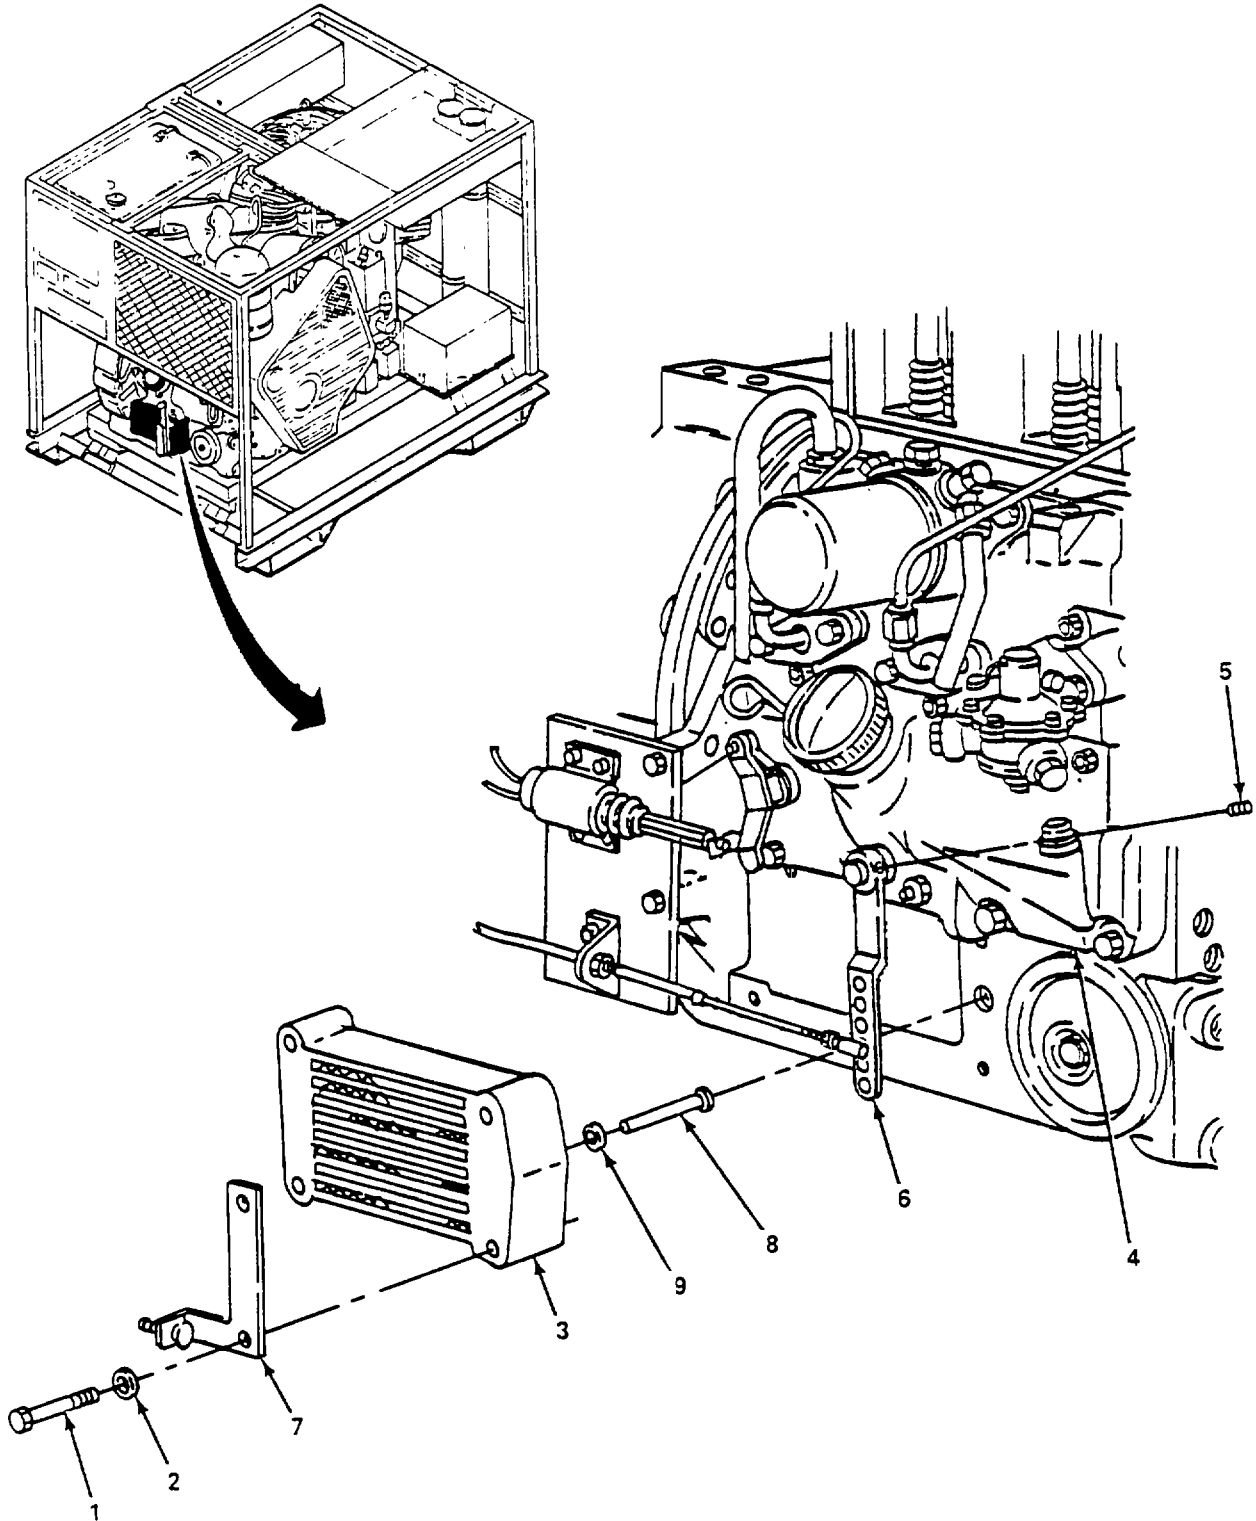

Figure 4-70. Engine Lube Oil Cooler, Replace
b. Replace. (figure 4-70)
- (1) Remove four screws (1), washers (2), securing lube oil cooler (3) to engine (4).
- (2) Remove pin (5) from arm (6) and rotate arm until oil cooler (3) clears for removal.
- (3) Place suitable container under oil cooler (3) and remove oil cooler (3) and bracket (7) from engine (4).
- (4) Remove oil pipe (8) and preformed packing (9). Discard preformed packing.
- (5) Install preformed packing (9) coated with grease in the oil cooler (3).
- (6) Install oil pipe (8) into oil cooler (3).
- (7) Install oil cooler (3) on engine (4) so that oil pipe (8) enters the oilway in the crankcase.
- (8) Install bracket (7) and secure with four screws (1) and washers (2).
- (9) Position arm (6) and install pin (5) into arm.